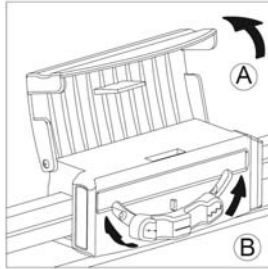

Fig. 5
- 1 Open the hinged cover over the cutting head (Fig. 5, A).
- 2 Move the selector switch according to the type of cut required (Fig. 5, B).